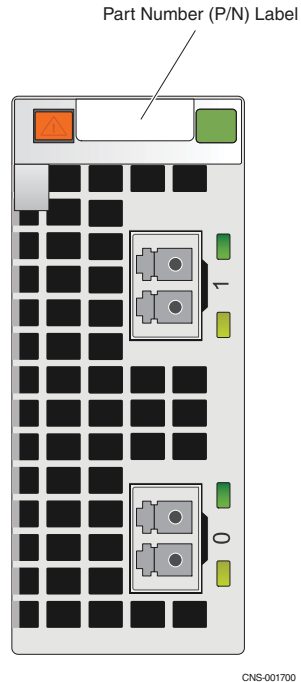

Figure 22 Example of the two-port 10-Gb/s optical (w/iSCSI protocol) I/O module
2. This part is not shown in the example Data Mover enclosure illustration in Figure 18 on page 20. For a closer view, go to Figure 22 on page 26.
Figure 22 shows the part number label location on the two-port 10-Gb/s optical (w/iSCSI protocol) I/O module (labeled **10 GbE** on the latch handle).